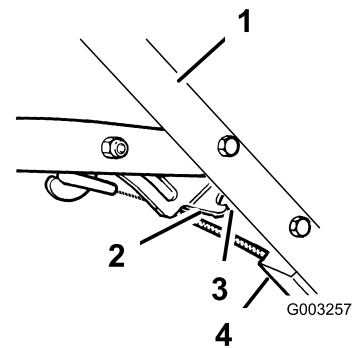

Figure 28
- A. Loosen the nut on the cable bracket (Figure 28).